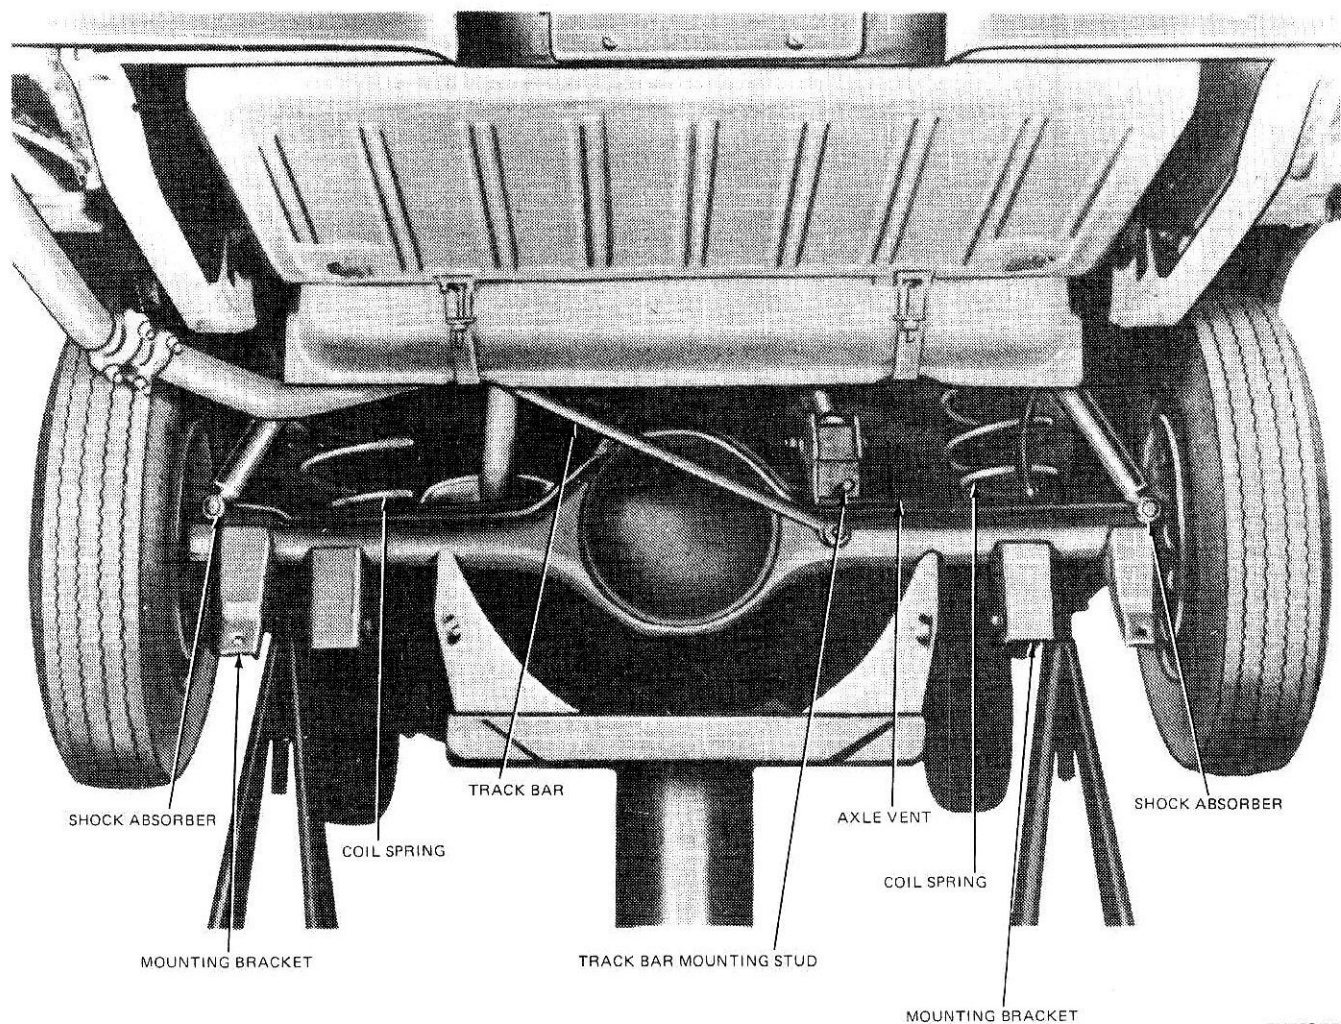

FIG. 9 Removing or Installing Rear Spring—Typical
4. Lower the hoist and axle housing until the coil springs are released (Fig. 9).
1. Position the lower arm in the bracket on the frame side rail. Install a new pivot bolt and new nut (Fig. 9). Do not tighten the nut at this time.
2. Position the lower arm to the axle bracket and install a new bolt and new nut (Fig. 9). Do not tighten the nut at this time.